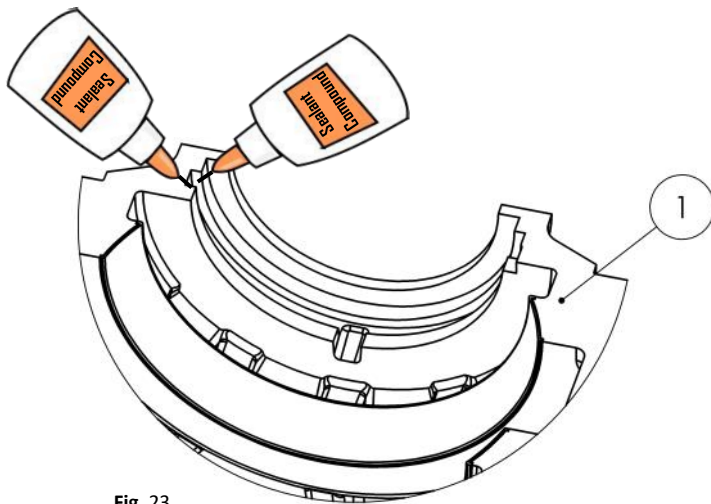

Fig. 23
- Apply an elastic sealant compound to the guide surfaces of the seal groove in the bottom half of the housing (Fig. 23).